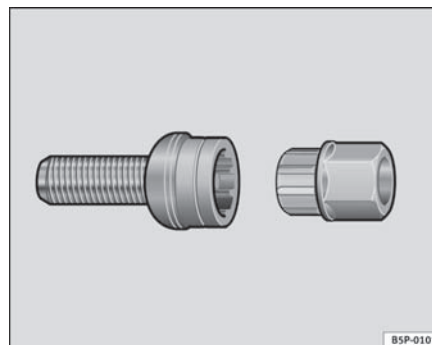

Fig. 137 Theft inhibiting wheel bolts ▶
- Insert the adaptor onto the wheel bolt and push it on as far as it will go ⇒ page 196, fig. 137.